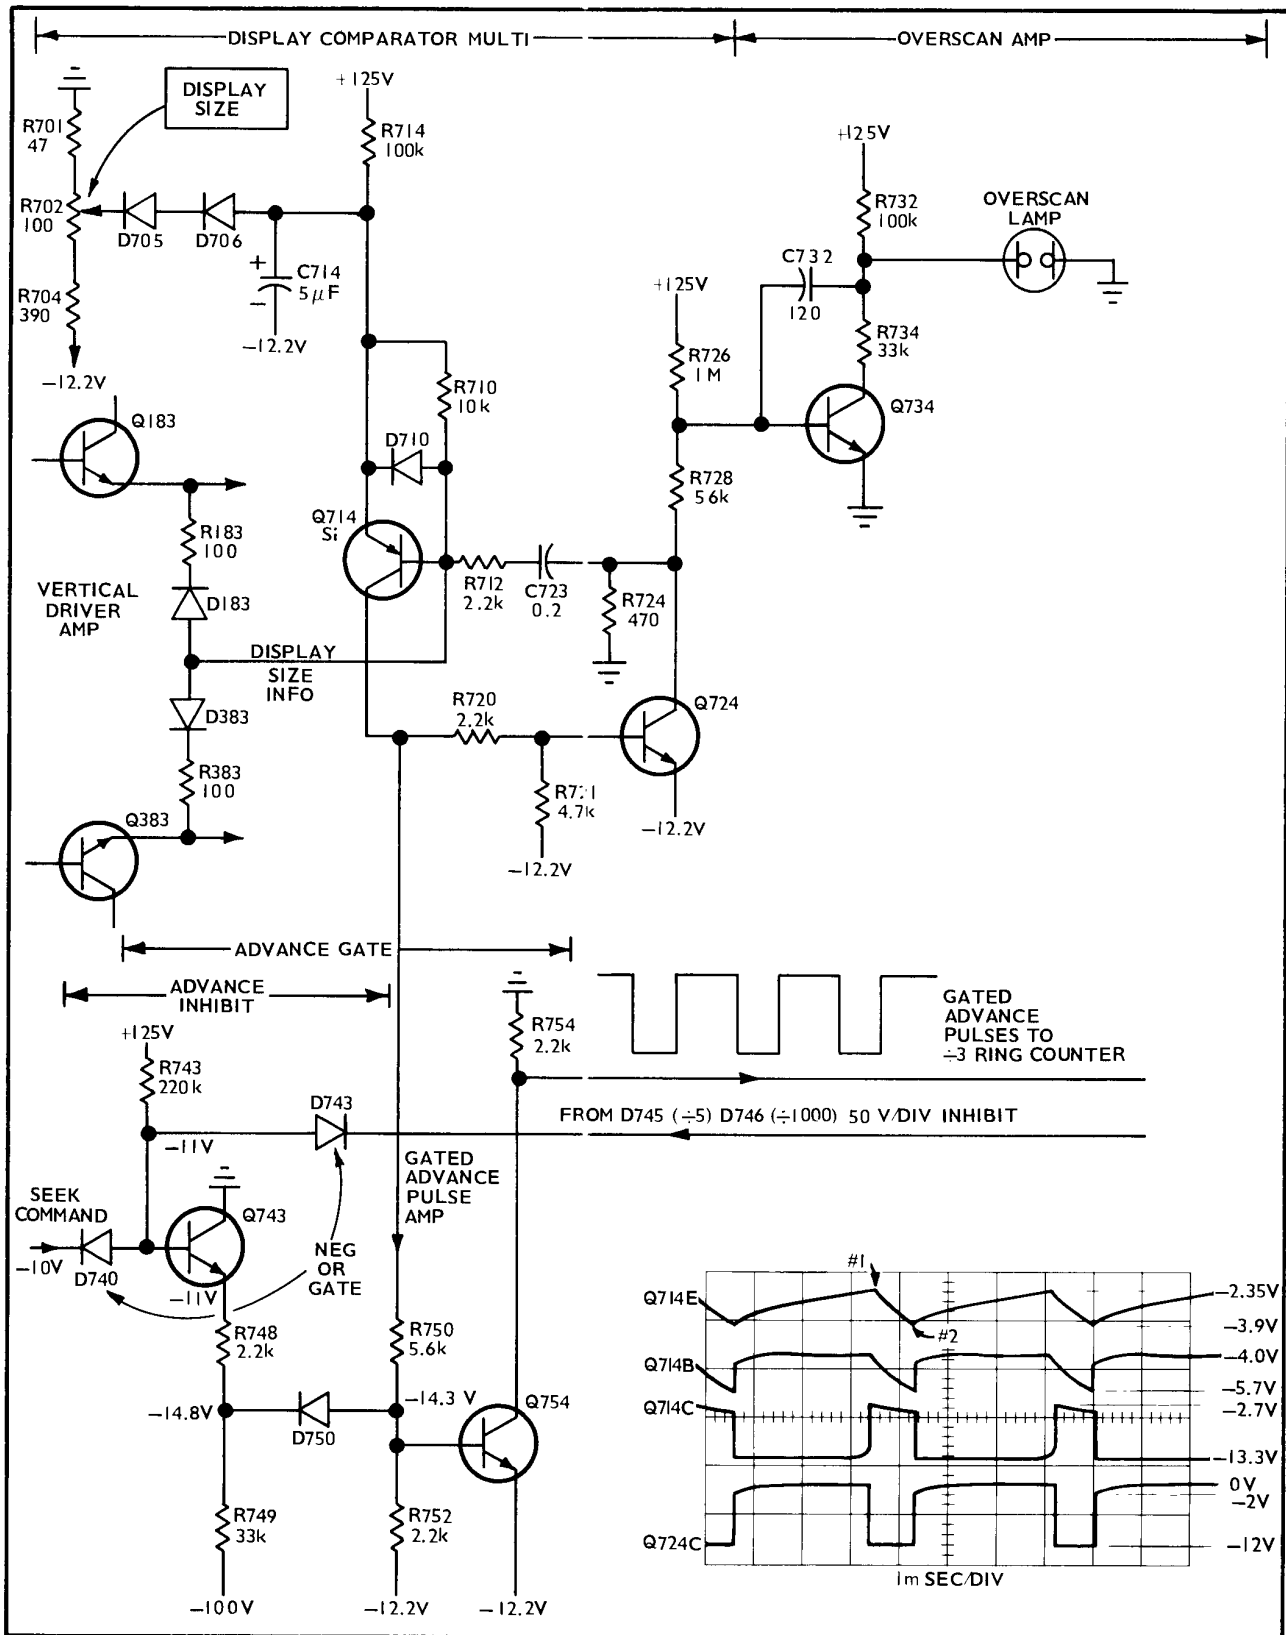

Fig. 3-25. Advance control circuits.
1. SEEK Command pulse from Q684. (See Fig. 3-25 and Diagram 5 in Section 9.)
Display Comparator Multi. The quiescent dc voltage at Q714 emitter is set by current through R714, D705 and D706 and the DISPLAY SIZE control. (See Fig. 3-25.) D706 sets C714 most positive potential, but disconnects the low impedance DISPLAY SIZE control if C714 and the emitter of Q714 try to go more negative than the quiescent level. Both D705 and D706 provide temperature compensation to Q714.
As Q714 starts to conduct current (point #1 of waveforms of Fig. 3-25) its collector voltage begins to rise positive. Q724 base comes out of cutoff after Q714 collector rises about 2 volts. As Q724 starts to conduct, its collector goes negative and couples a negative regenerative turn on signal to Q714 base. Q714 and Q724 both saturate quickly. Q714 remains saturated during the time attenuator reed bounce occurs, and so is insensitive to bounce voltages. Current through R712 and R710 quickly take some of C714 charge and transfer it to C723. As C723 charges, Q714 base becomes reverse biased, and the regenerative action starts in reverse, turning Q714 and Q724 off rapidly. During the time Q714 was conducting, C714 let Q714 emitter fall about -1.5 volts below its quiescent level (point #2 of waveforms of Fig. 3-25). As Q724 collector rises positive to cutoff, C723 drive to Q714 base is limited by D710.
The waveforms of Fig. 3-25 were taken while the Display Comparator Multi was free running. The free run action was caused by positioning the trace 4 divisions from the graticule center. Note that Q714 emitter voltage following point #2 rises slowly and the multi is off longer than it is on. The slow rise is due to C714 charging through R714. As soon as Q714 emitter rises to a level where the base-emitter voltage will again cause it to conduct, the Display Comparator Multi flips and both transistors again saturate.